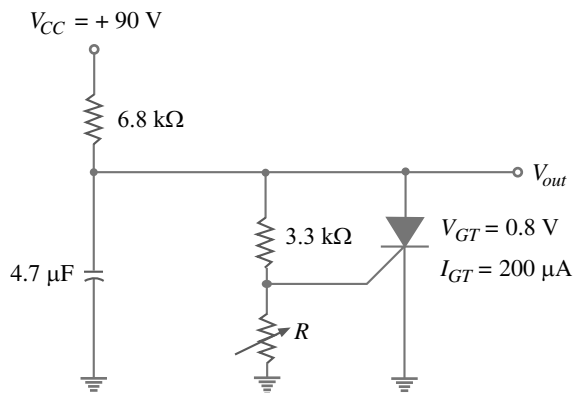

Fig. 18.8
**Example 18.6.** The value of  $R$  in Fig. 18.8 is adjusted to 500  $\Omega$ . What is the peak output voltage?